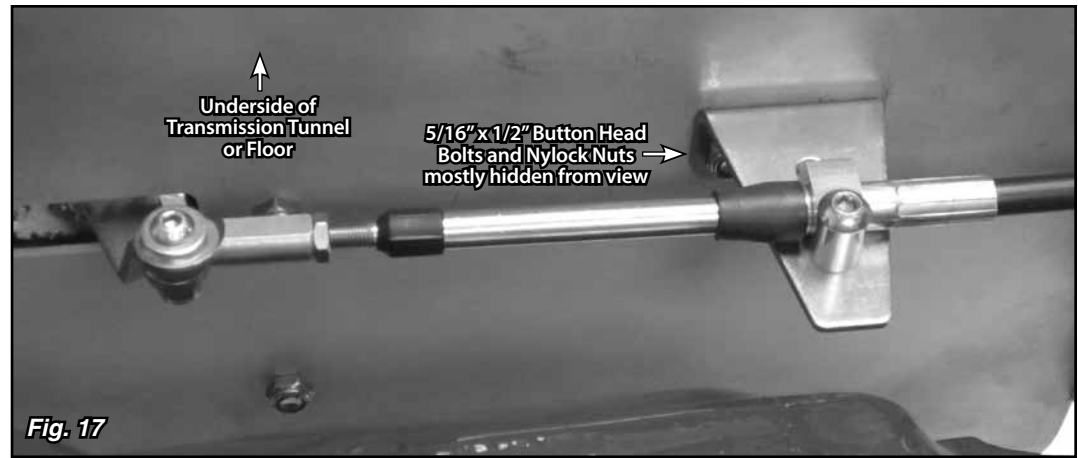

Fig. 17
Step 18: Install the upper cable mounting bracket on the floor using the 5/16"-24 x 1/2" button head bolts and nylock jam nuts. **Fig. 17**